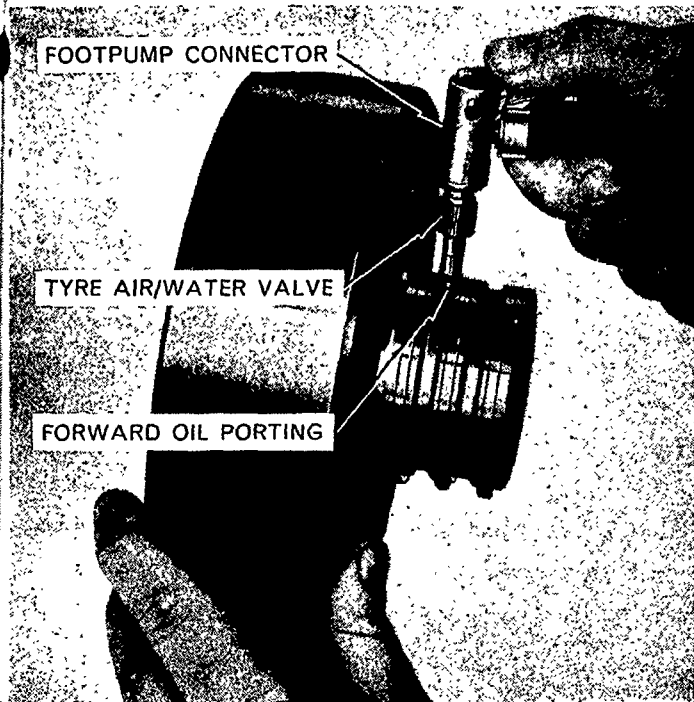

Figure 26
8. By applying compressed air through the forward of the two holes in the clutch housing the piston is forced forward and can be removed. If a compressed air line is not available a foot pump can be used by inserting a tyre air/water valve into the footpump connector, Figure 26.